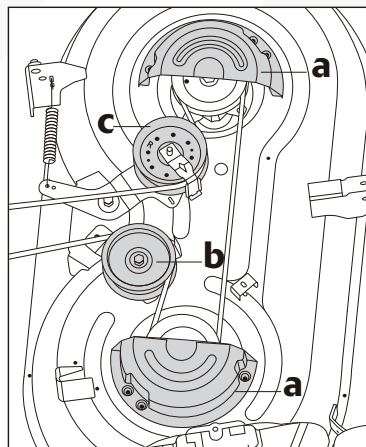

Fig. 26
2. Remove the two belt protective covers (a, Fig. 26) by removing the six screws that fasten them to the deck.
3. Remove the fixed pulley (b, Fig. 26) and tension pulley (c, Fig. 26).